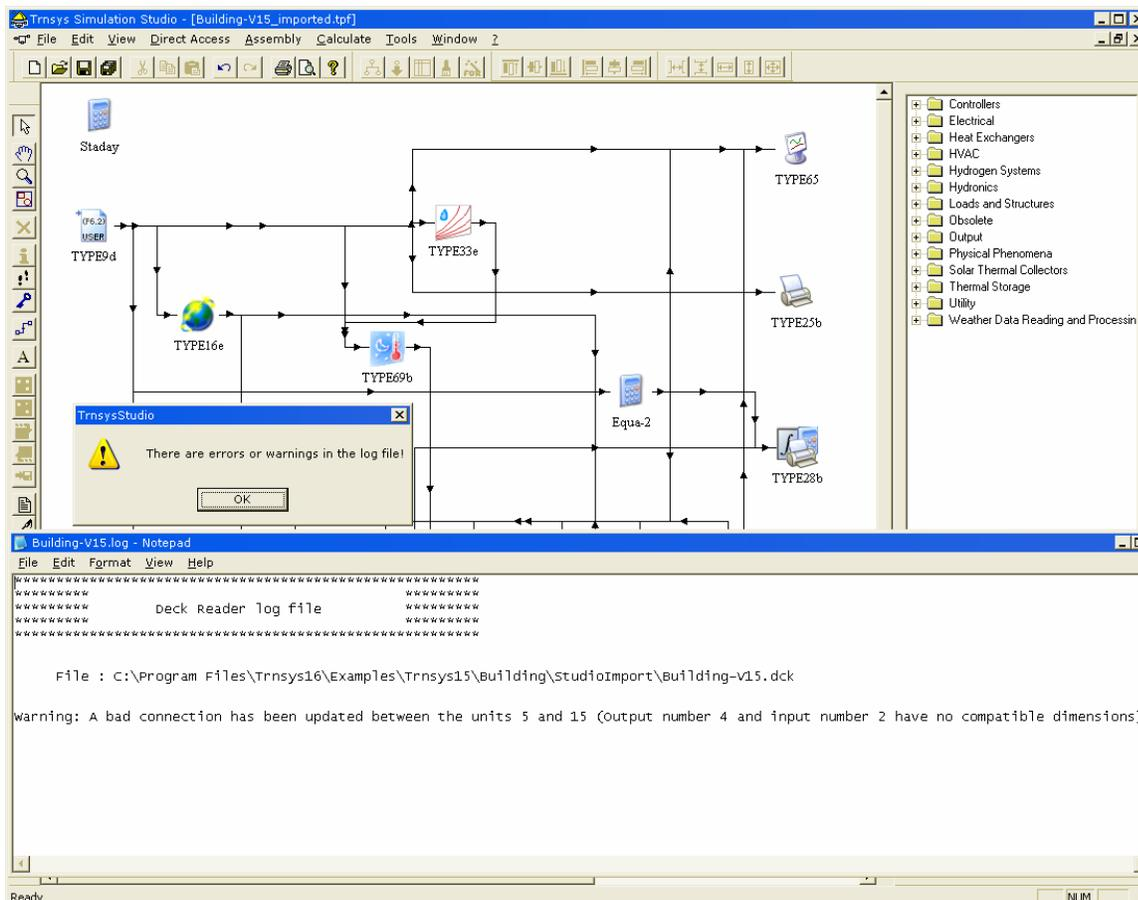

Figure 1–63: Importing a Version 15 building project in the Simulation Studio
- You are then informed that warnings or errors were generated during the import (see Figure 1–63). The warning is not important as it actually informs you that there was a bad connection between a solar radiation processor and a controller that is supposed to have temperatures as inputs.